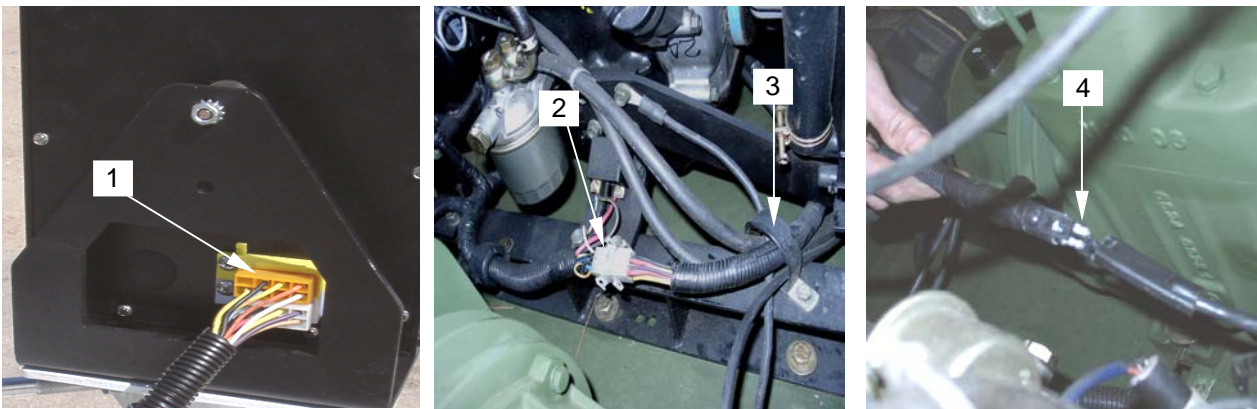

Figure 22. Control Panel and Lighting Harness
6. Remove the wire harness (**figure 22, item 1**) from the control panel and engine harness (**figure 22, item 2**). Remove wire harness from engine cable retainers (**figure 22, item 3**).
7. Separate the lighting harness plug (**figure 22, item 4**).